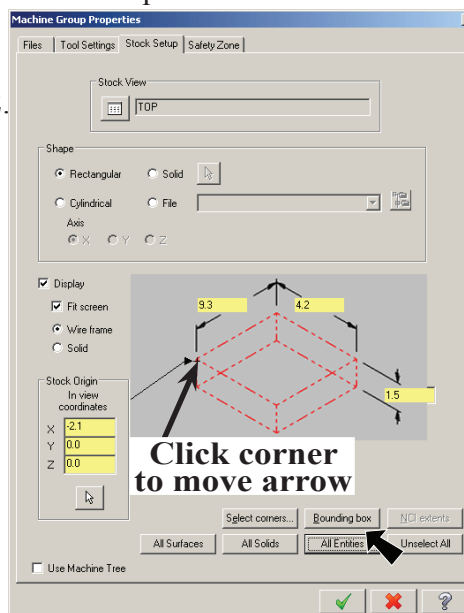

Fig. 2
Step 6. Click the **left front top corner of the stock** to move the origin, **Fig. 2**. After you click corner the arrow will point to corner.
Step 7. Click **All Entities** box button in the Stock Setup dialog box, **Fig. 2**.
Step 8. Click OK  in the Machine Group Properties, **Fig. 2**.